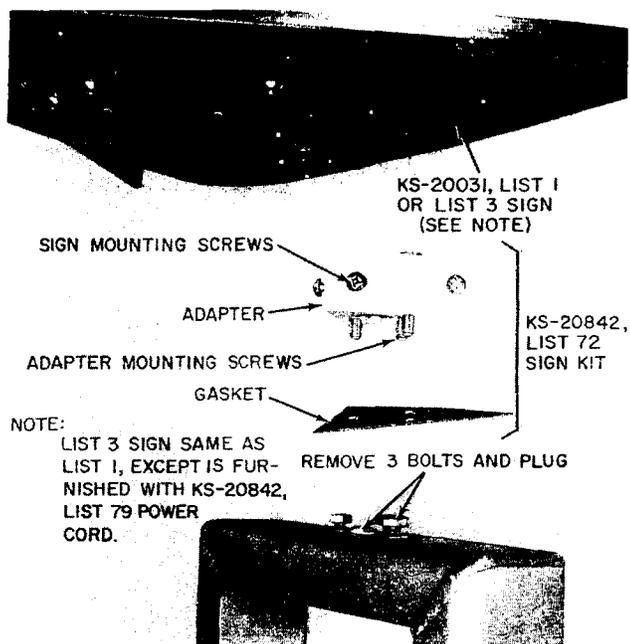

Fig. 13—Installation of KS-20031, List 1 or 3 Sign
3.13 KS-20031, List 1 or List 3 Sign (Fig. 13 or 14): This sign can be installed on List 170, List 176, and List 177 mast assemblies as follows:
- (2) Install the sign on the adapter per Fig. 13.